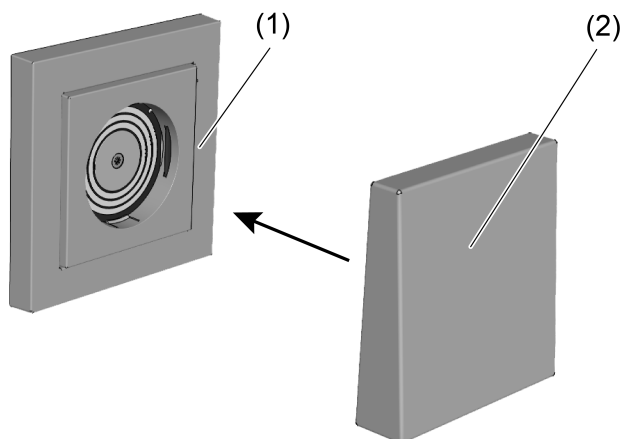

Figure 1: Mounting the light attachment
- Place the light attachment (2) on the mounted light socket (1) (Figure 1).